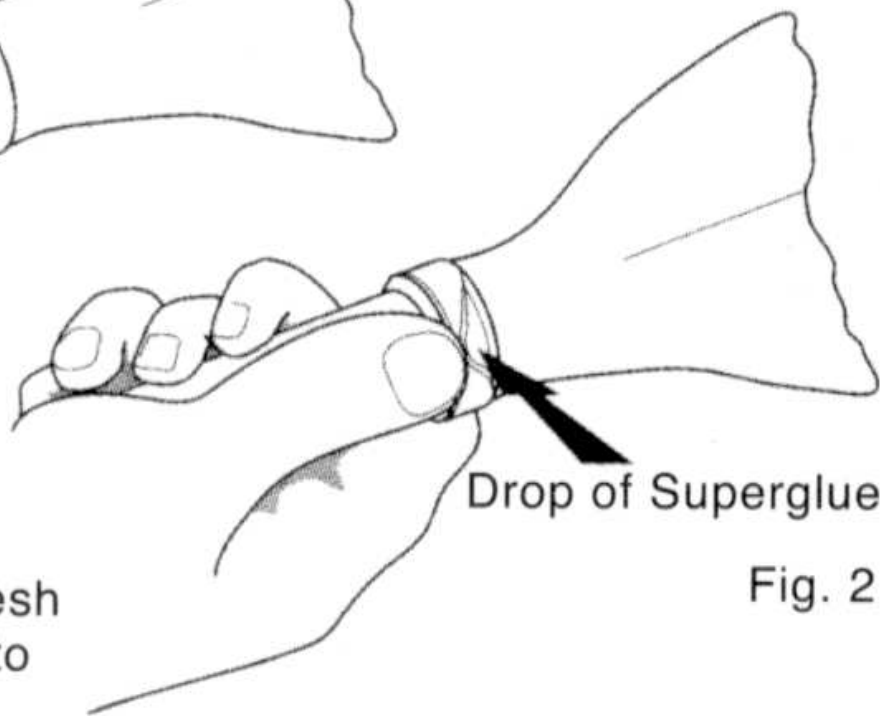

Fig. 2
4. Grip spigot as shown on Fig. 2 and using thumb pull back edge of seal as shown. Apply small drop of super glue onto spigot close to blade release fold and immediately push seal hard against champher at neck of blade. Repeat 2 or 3 times round spigot.